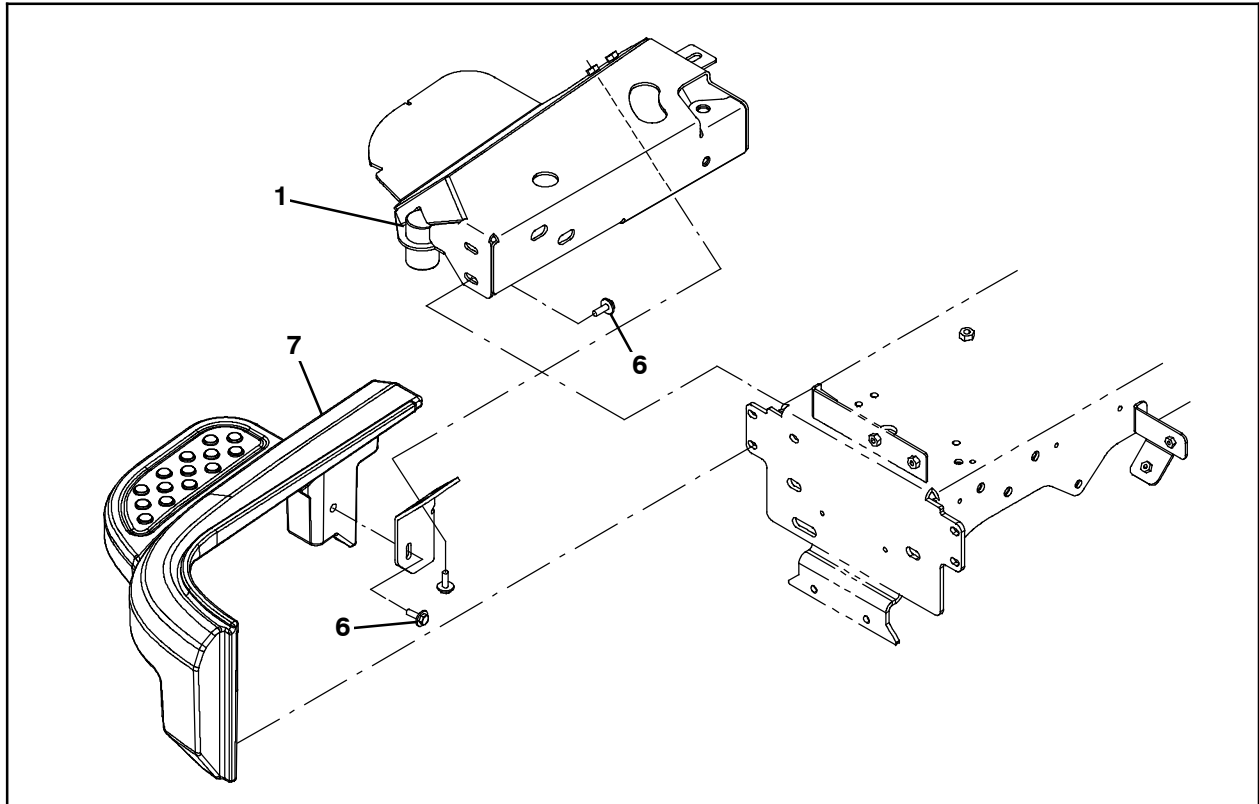

FIG. 30
- 57. Use three SEMS M8 hex screws (6) to install the side brush bumper (7) onto the machine. (Fig. 30)